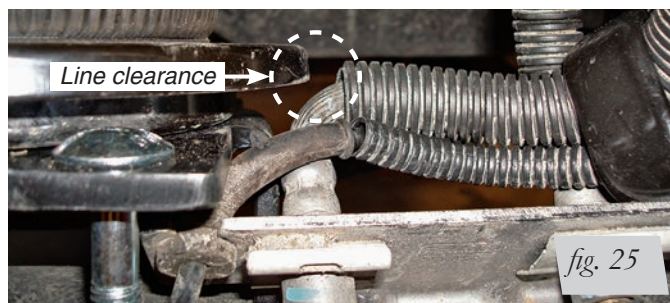

fig. 25
1. Once the left (driver's) side assembly has been completed, review the RSC Brake/ABS line clearance and adjust if necessary (Fig. 25).